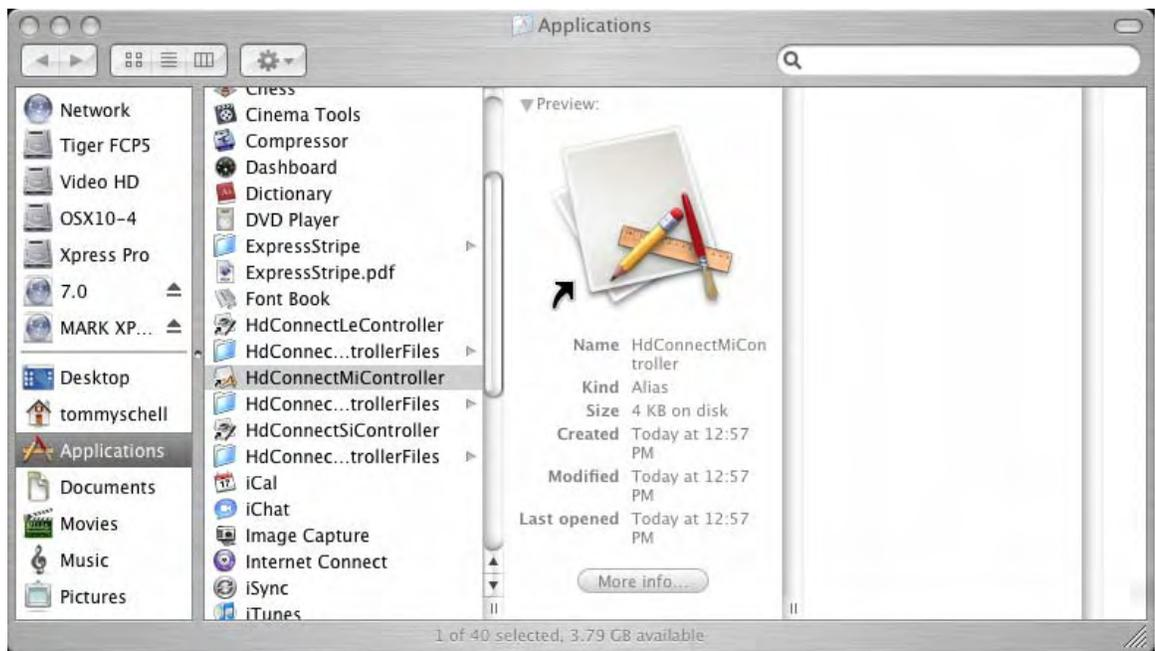

Figure 14 Finder in OSX
- 2) Open the HD-Connect MI™ Update Application window itself, using Finder to locate the Applications, and select “HdConnectMiController”. Figure 14 illustrates this.